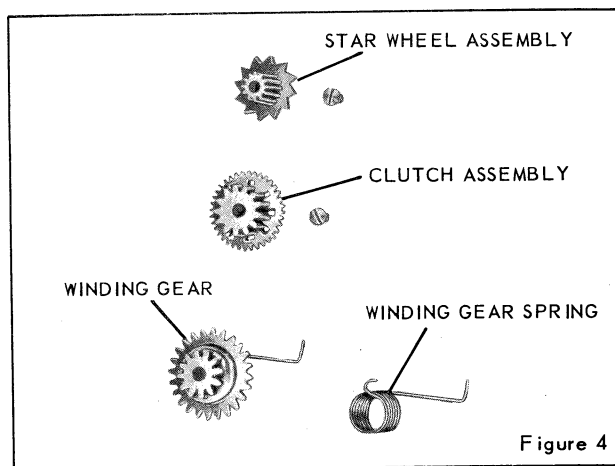

Figure 4
| | The CLUTCH ASSEMBLY, figure 4, is slipping. | Replace the clutch assembly. |
| Both flash settings are below the millisecond tolerances | The tension is too great on the WINDING GEAR SPRING, figure 4. | Relieve the tension slightly on the winding gear spring. However, there must be enough tension on the spring to permit the winding lever to carry through on both the F and M flash settings. |
3. Winding lever, with the sixth or seventh tooth from the left meshed with the WINDING GEAR, figure 4. Place the WINDING GEAR SPRING in tension by giving two and one-quarter strokes to the winding lever, lifting and replacing the lever after the first and second strokes. This should be the approximate setting for the flash synchronization of the shutter.
4. WINDING GEAR, figure 4, and WINDING GEAR SPRING.